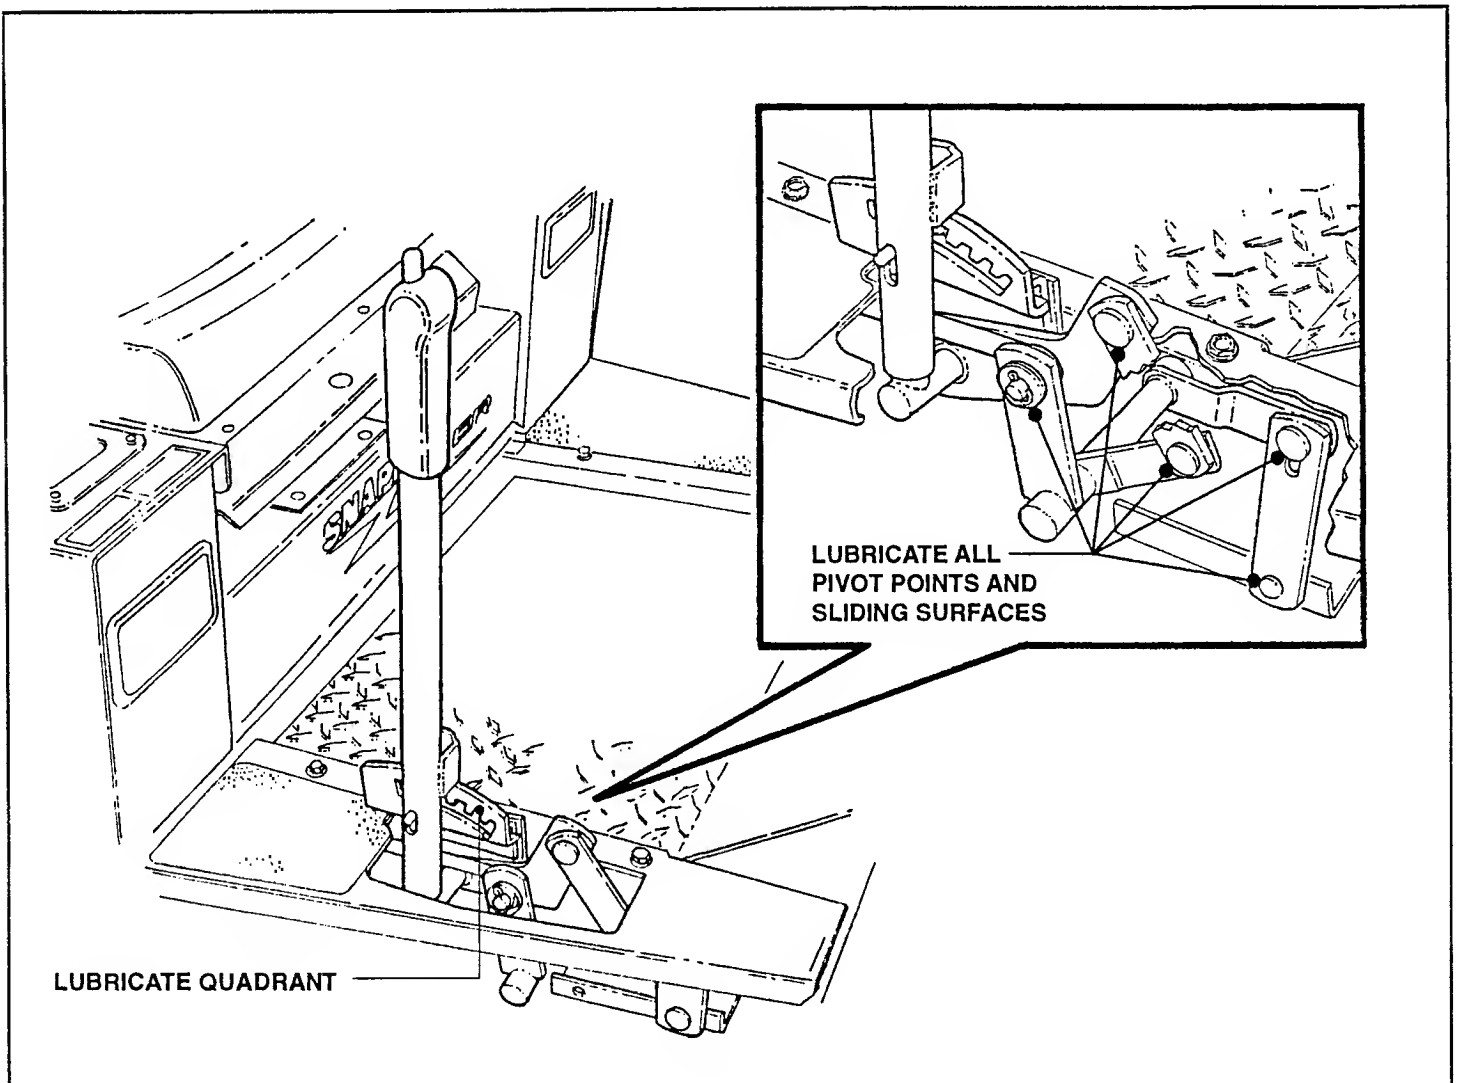

FIGURE 7.1
- A. When servicing, clean, then lubricate all Pivot points and sliding surfaces with a light coat of GP grease. See Figure 7.1 for an example.